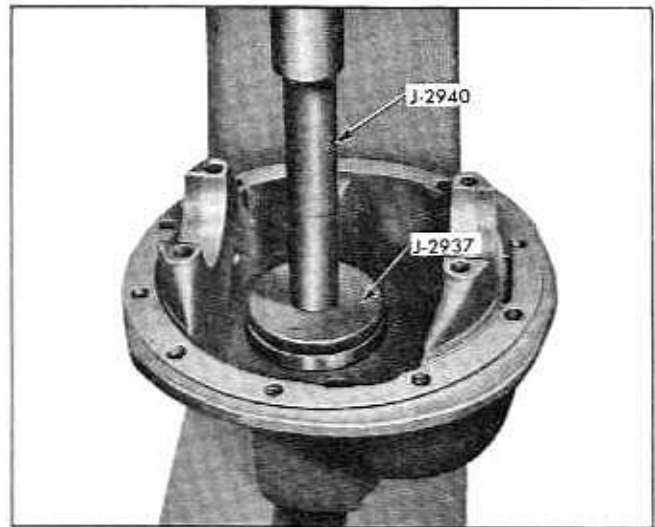

Fig. 4-33 Installing Rear Bearing Outer Race With Installer J-2937 and Handle J-2940
17. Place pinion adjusting shims against shoulder in carrier; press rear bearing outer race against shims and shoulder using Installer J-2937 and Handle J-2940 (Fig. 4-33).